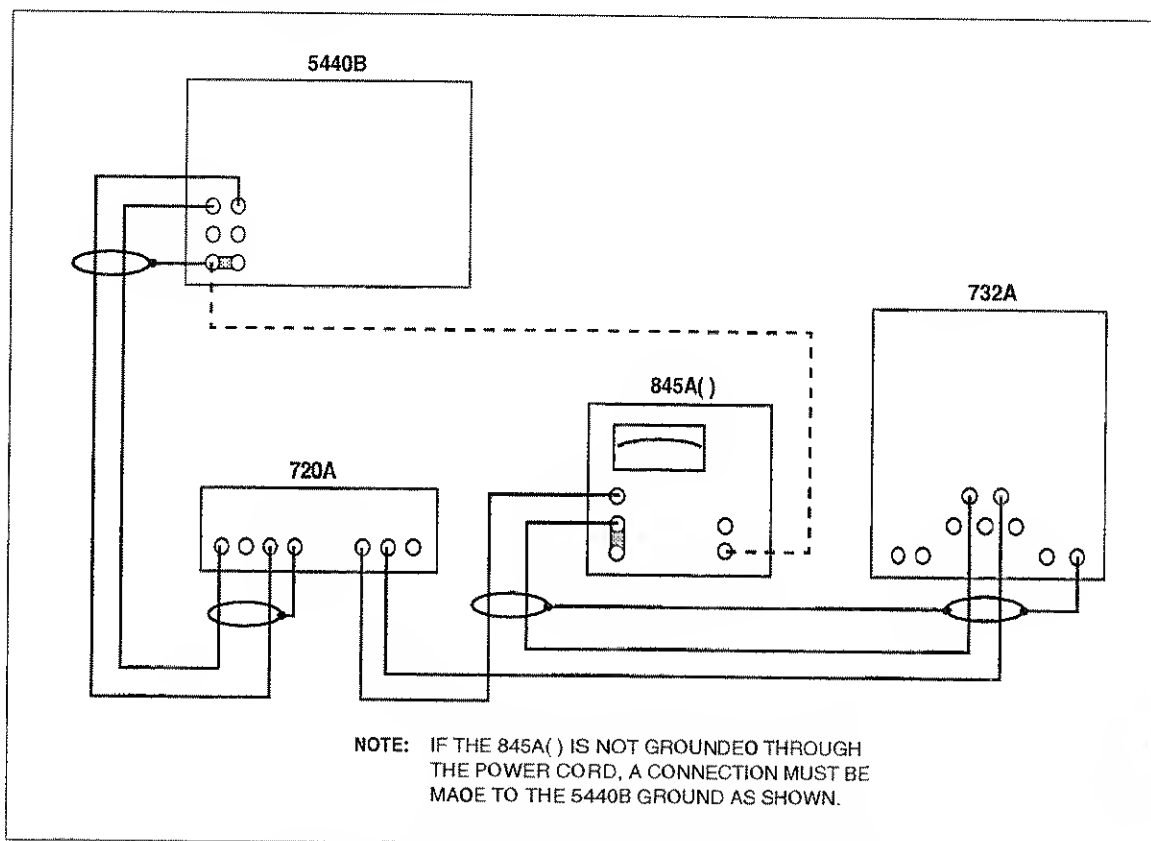

Figure 3-2. DC Source Characterization Setup, Part 1
3. Connect the equipment as shown in Figure 3-2.